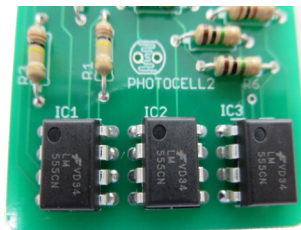

Fig.5
5. Install and solder IC1, IC2 and IC3 (LM555) as per fig. 5.
Make sure pin1 (the dot) is facing towards the LED as shown in fig.5.